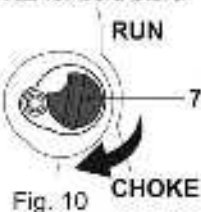

Fig. 10
- > Turn the choke clockwise to the position **CHOKE** to close the choke (Fig. 10). Move the choke to the position **CHOKE** for cold start.